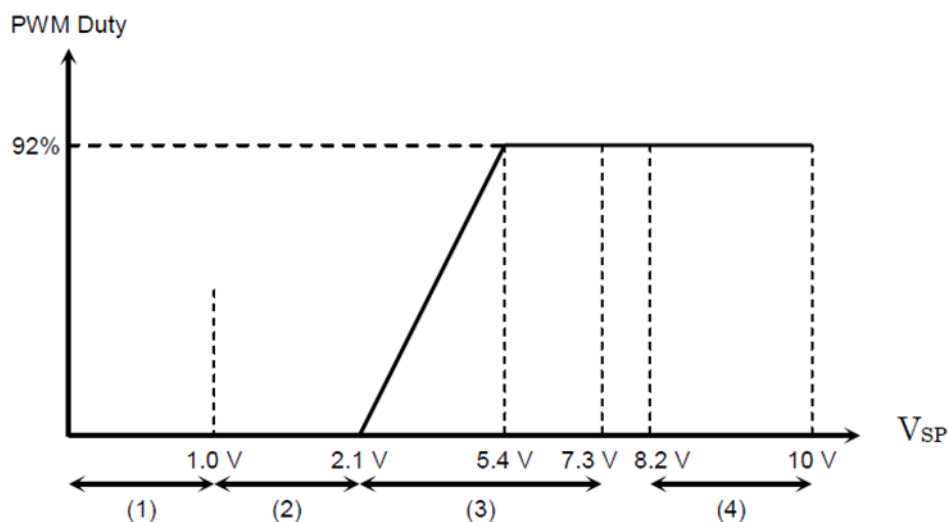

Figure 3.3 Controlling the motor rpm via the V_{sp} voltage
The motor rpm can be controlled via the DC voltage applied to the V_{SP} pin of the TB6634FNG. Figure 3.3 shows the relationship between the V_{SP} voltage and the PWM duty cycle. The TB6634FNG allows the motor rpm to be controlled when V_{SP} is in the voltage range of (3).